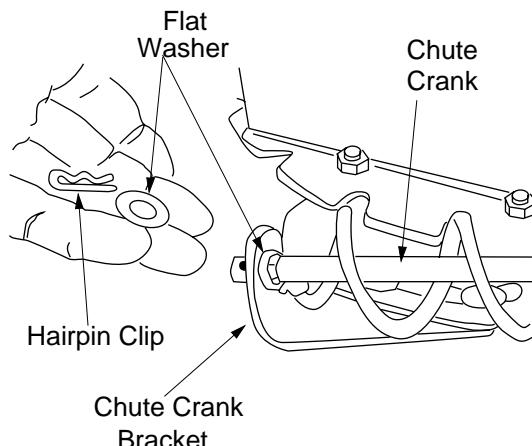

Figure 9
2. Place one flat washer over the end of the chute crank, then insert the end of the crank into the hole in the plastic bushing in the chute bracket. See Figure 9. Place second flat washer on chute crank, and secure with hairpin clip.
5. Adjust the chute crank support bracket (see Figure 9) so that the spiral on the chute crank fully engages the teeth on the chute assembly. Tighten the nuts on the chute crank bracket securely. Tighten the hex nuts on the eyebolt.